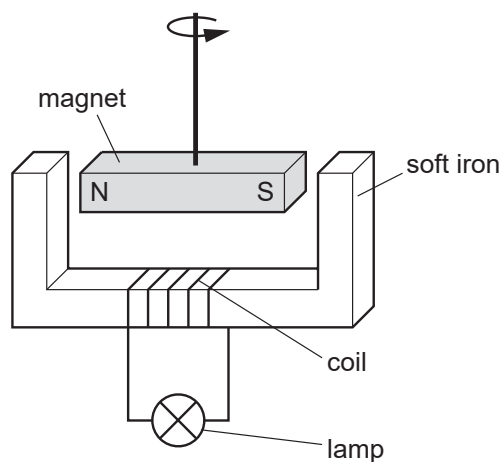

Fig. 9.1
- 4 Fig. 9.1 shows a rotating magnet in an alternating current generator that is used to power a lamp.
- (b) Explain, in detail, how **alternating** current is produced by the apparatus shown in Fig. 9.1.